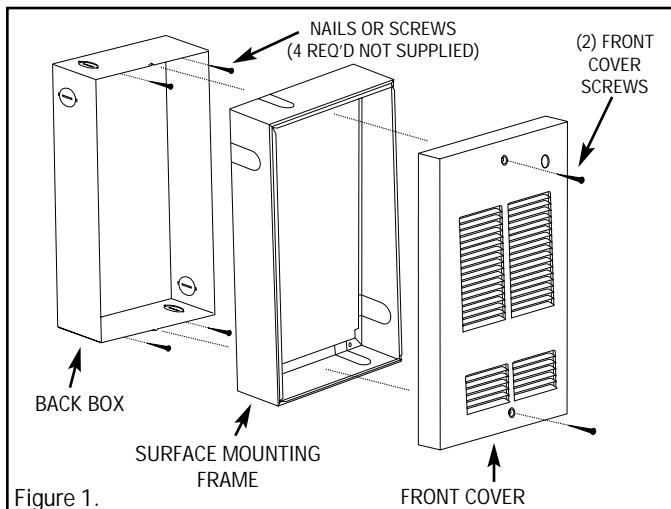

Figure 1.
2. If power supply is provided from inside wall or ceiling, remove knockout in back of back box, install cable clamp leaving at least 8" (203mm) of cable inside back box. Secure back box to building structure using (4) holes in back box. (See Figure 1).
3. If power supply is provided by a surface system (such as conduit, surface raceways, etc.) remove knockout in back box on side to match up with supply location. Install appropriate cable connector to match surface system and secure back box to wall or ceiling, using (4) mounting holes in back allowing at least 8" (203mm) of cable inside box.